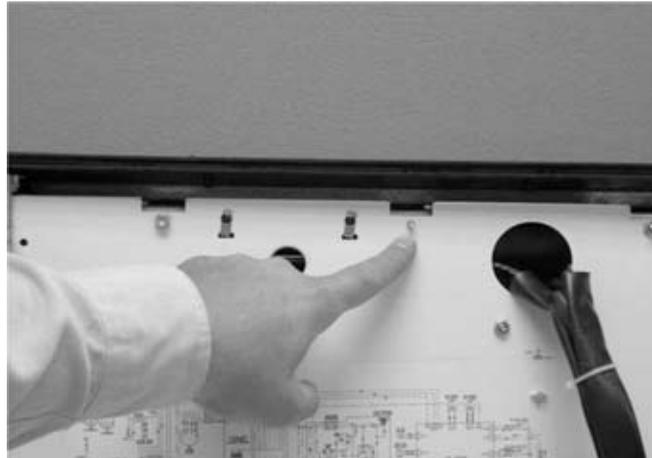
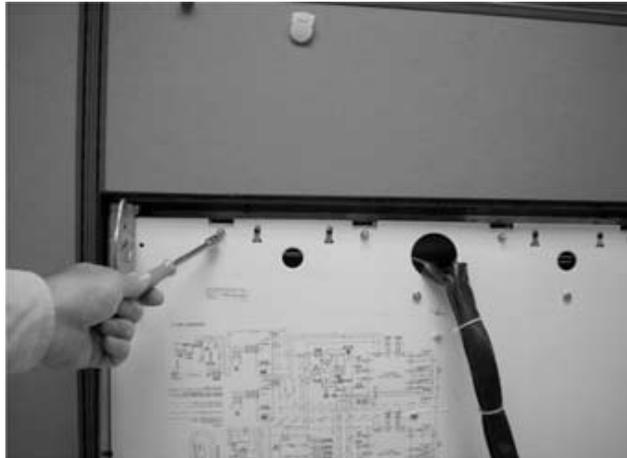

Figure 63.
Figure 64.
- T. Attach nuts to both studs on back of merchandiser and tighten with tool, see Figure 63 and Figure 64.